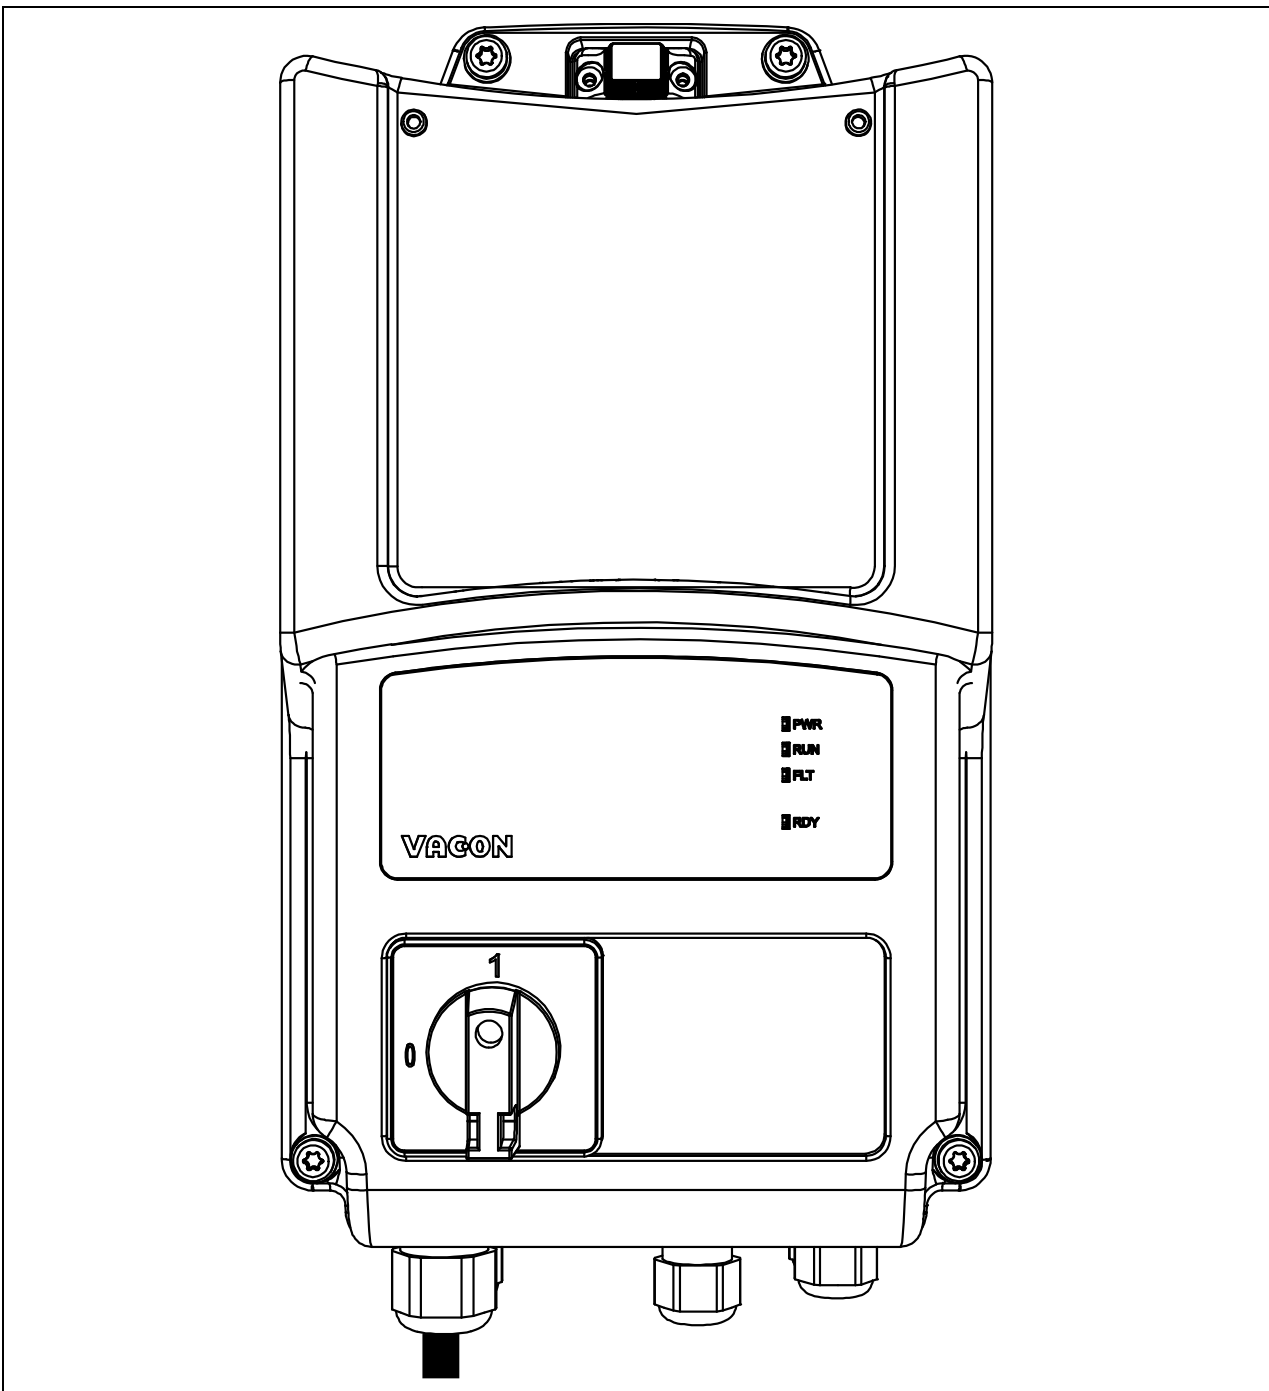

Figure 4. Mount the plastic cover.
- Mount the plastic cover onto the drive with its screws and the HMI cap: the installation process has been completed. See Figure 4.